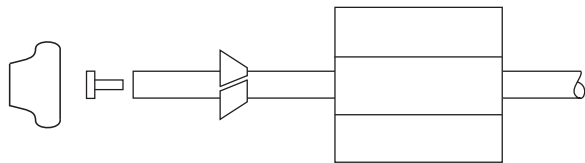

Figure 14
**Note:** Once the tubing has been pushed into the nut it cannot be pulled out. The nut will need to be removed. See Figure 14 for correct assembly.